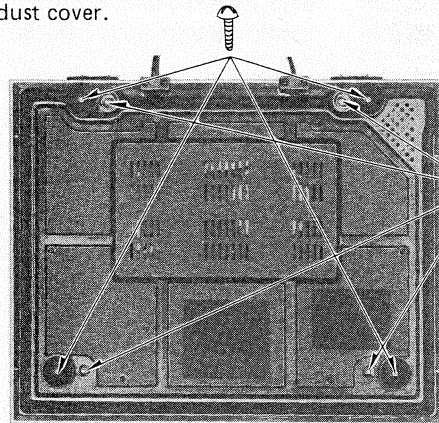

Fig. 2
6. Remove the 4 screws from Insulator. (Fig. 2)